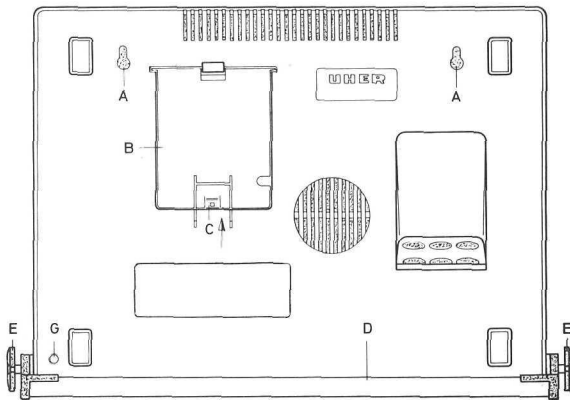

Fig. 1
The SG 561 may be operated in either vertical or horizontal position. Two holes (A) are provided on the bottom side (or rear) of the unit's housing for hanging the unit on wall hooks (see Fig. 1).
(Figs. 1 and 2)
1.5 Attaching the Carrying Handle (Figs. 1 and 3)